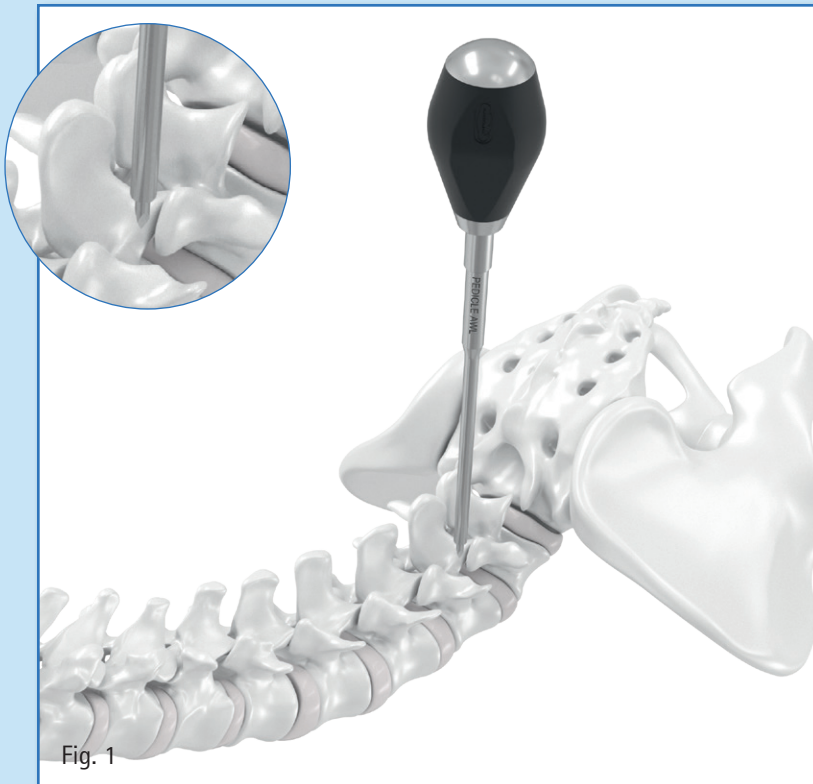

Fig. 1
1. Identify the appropriate spinal landmarks for initiating cortex perforation for screw placement. Create the perforation of the cortex with the Pedicle Awl (SZ241R) or burr, according to surgeons preference. (Fig. 1)